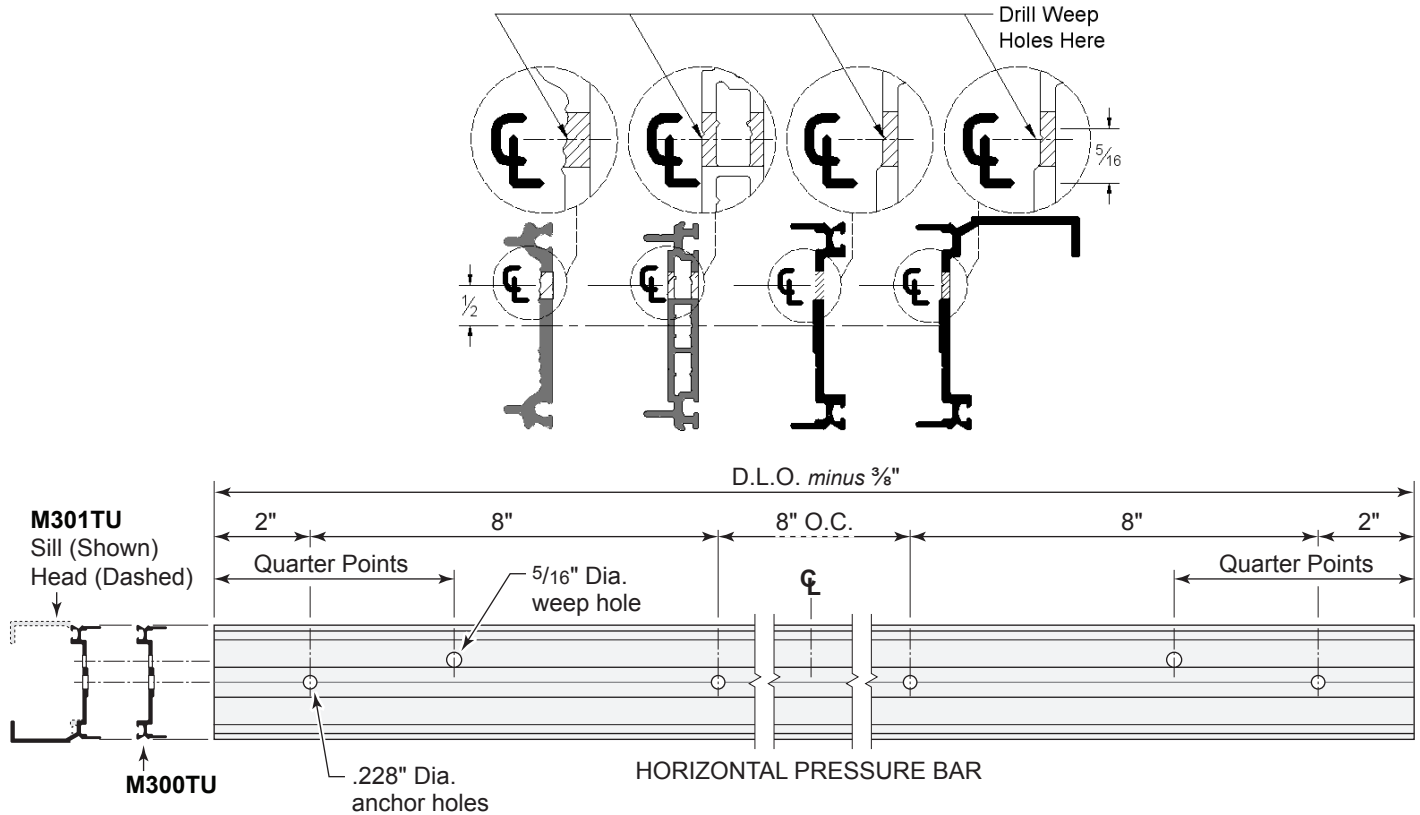

Fig. 27.1
- Drill two 5/16" diameter weep holes per horizontal pressure plate at 1/8 points at each end. Locate the holes on the V-groove above the center line of the pressure plate. See **Fig. 27.1**